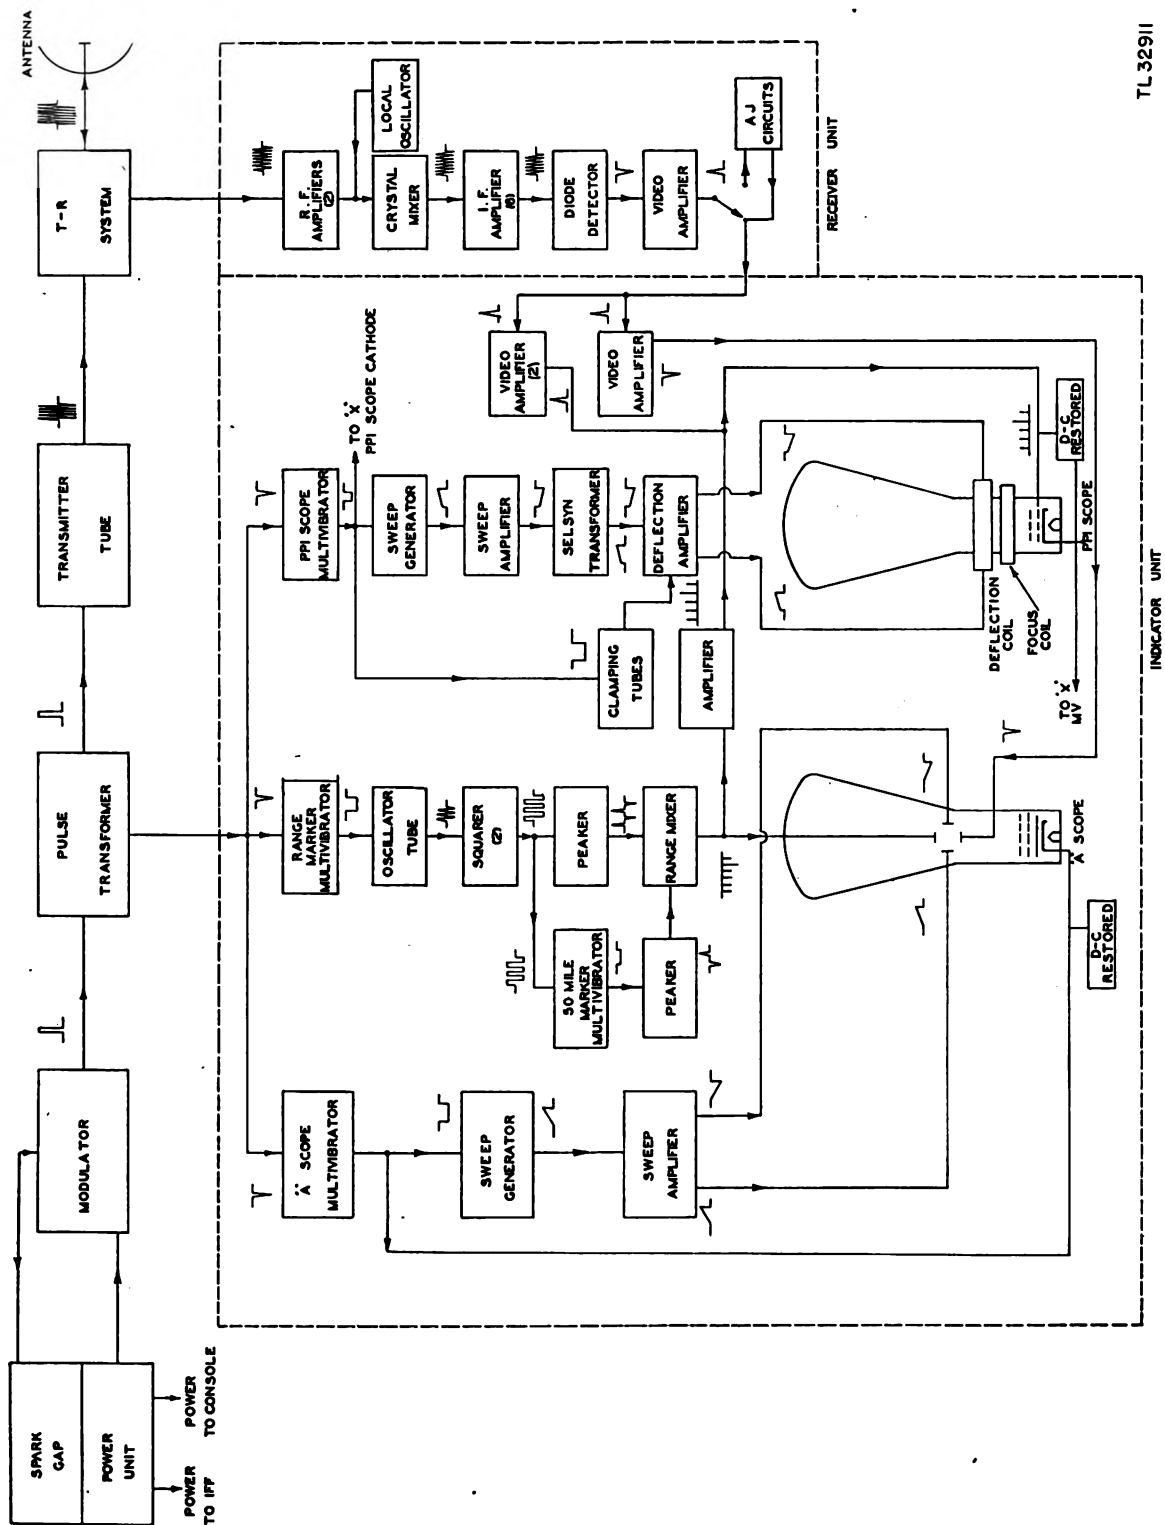

Figure 7. Detailed block diagram.
a. Introduction. A functional block diagram is shown in figure 7. For clarity in description the set is considered as consisting of three main components; the radio frequency system, the receiver unit, and the indicator unit. Physically, the console contains the indicator unit, receiver unit, T-R system, pulse transformer, transmitter, and transmission line tuning stubs. Connections between these units are made within the console. The modulator and gasoline driven generator each are separate units. The vertical antenna support extends through the upper part of the console. This support is actually the r-f transmission line.
b. Radio-Frequency System. (1) **GENERAL.** The radio-frequency system (fig. 7) consists of the
c. *Receiver Unit* (fig. 7). (1) **GENERAL.** In addition to the receiver stages, the receiver chassis contains the anti-jamming circuits and the power supply circuit.
d. *Indicator Unit (fig. 7).* (1) **GENERAL.** The indicator unit contains the "A" scope, the "A" sweep circuit, the PPI tube, the PPI tube, sweep circuit, the range marker circuit, and additional video amplifiers. Sweep circuits for ranges of 20, 60 and 120 miles are obtained. Range markers appear for every 10 miles of range. An additional section of the range-marker circuit accentuates every fifth range marker. Both the sweeps and the range markers are initiated at the instant the transmitted pulse is produced. The 75-volt negative pulse from the pulse transformer is used to trigger these circuits.